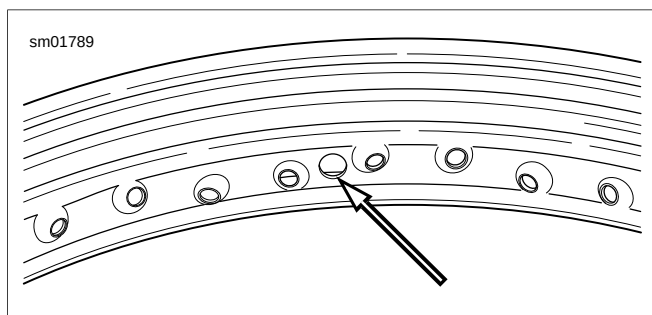

Figure 2-48. Valve Stem Hole Location
- See Figure 2-48. The valve stem hole is centered on the rim; you do not have to worry about choosing the correct relationship between the rim and the hub.